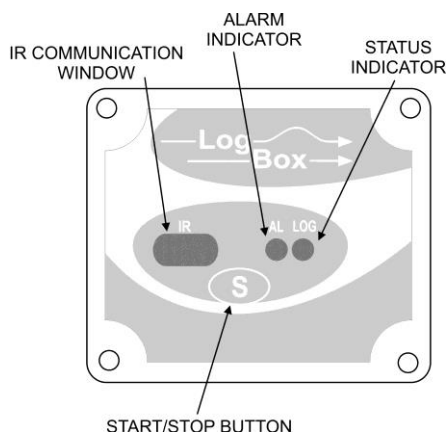

Figure 01 – Logger Front
- **Immediately:** start as soon as programming is considered to be ready, and is then sent (OK) to the logger.
- **Through Start Button:** starts and interrupts readings by pressing the Start button, in the frontal part of the logger, for two seconds. See Figure 01.